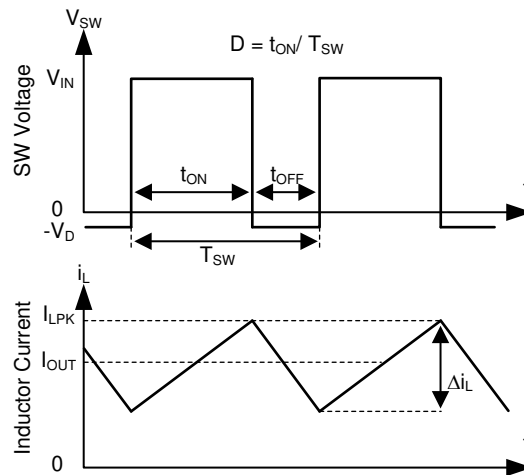

Figure 39. SW Node and Inductor Current Waveforms in Continuous Conduction Mode (CCM)
The following operating description of the TPS25830-Q1, TPS25831-Q1 will refer to the *Functional Block Diagram* and to the waveforms in *Figure 39*. TPS2583x-Q1 is a step-down synchronous buck regulator with integrated high-side (HS) and low-side (LS) switches (synchronous rectifier). The TPS2583x-Q1 supplies a regulated output voltage by turning on the HS and LS NMOS switches with controlled duty cycle. During high-side switch ON time, the SW pin voltage swings up to approximately V_{IN} , and the inductor current i_L increase with linear slope $(V_{IN} - V_{OUT}) / L$. When the HS switch is turned off by the control logic, the LS switch is turned on after an anti-shoot-through dead time. Inductor current discharges through the LS switch with a slope of $-V_{OUT} / L$. The control parameter of a buck converter is defined as Duty Cycle $D = t_{ON} / T_{SW}$, where t_{ON} is the high-side switch ON time and T_{SW} is the switching period. The regulator control loop maintains a constant output voltage by adjusting the duty cycle D . In an ideal buck converter, where losses are ignored, D is proportional to the output voltage and inversely proportional to the input voltage: $D = V_{OUT} / V_{IN}$.
The TPS2583x-Q1 is internally compensated as shown in Figure 39. The internal compensation is designed such that the loop response is stable over the specified operating frequency and output voltage range. The TPS2583x-Q1 is optimized for transient response over the range $300 \text{ kHz} \leq f_{sw} \leq 2300 \text{ kHz}$.